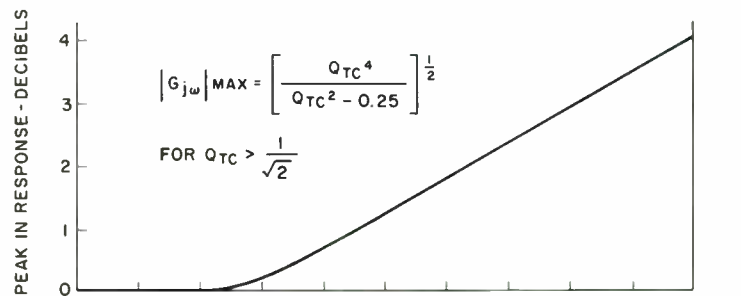

FIGURE 1b: Magnitude of response peak.
2. *Peak in Bass Response.* Small¹ gives equations for the magnitude of the peak ($|G_{j\omega}|_{\text{max}}$) and the normalized frequency ($f_G \text{ max}/f_C$) at which this peak occurs. Figure 1b shows the height of the peak in decibels versus Q_{TC} . No peaking occurs for a Q_{TC} less than or equal to 0.707.